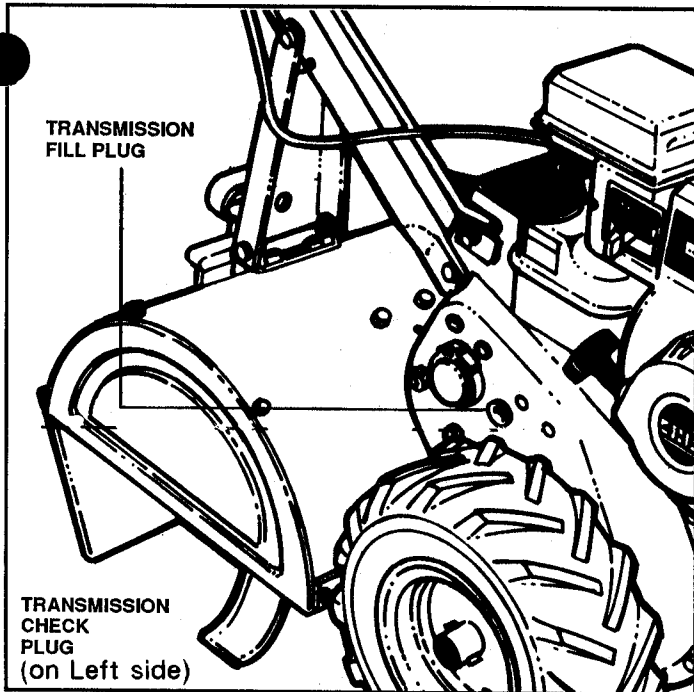

FIGURE 9
**CHAIN CASE:** Check the level of the grease in the chain case at the beginning of each tilling season. Check by removing the plastic plug located beside the axle shaft on the lower left hand side. The level should be up to the edge of the opening. To add grease, remove the filler plug located just forward of the pulley shaft on the R.H. side. Add **SNAPPER 0** grease as needed to bring level up to bottom edge of the check plug opening. The total capacity of the case is about 1 U.S. Standard quart - do not exceed this amount. Reinstall plugs after checking. See Figure 9.